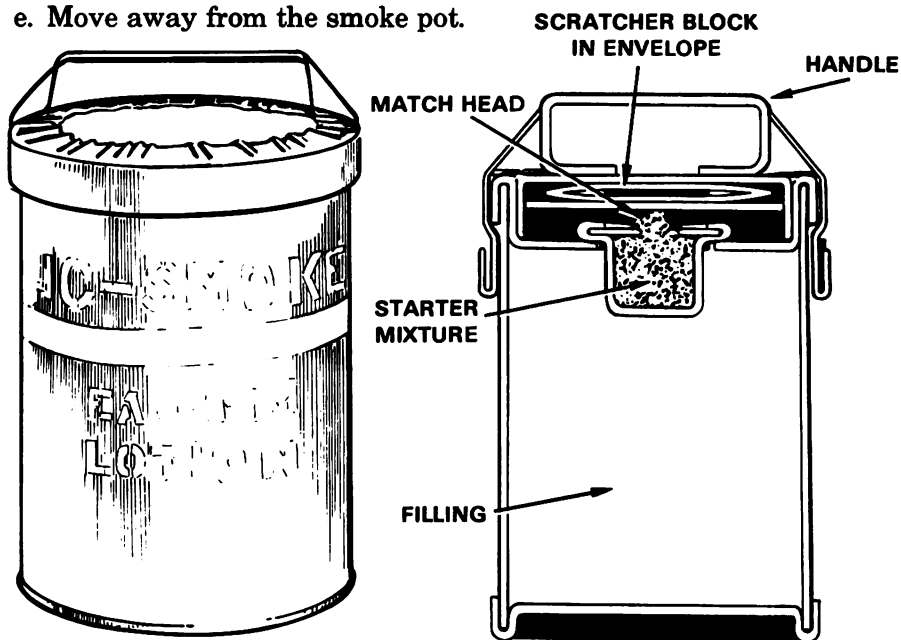

Figure 1. M1 10-lb. HC smoke pot.
1. To ignite the M1 pot (figure 1).